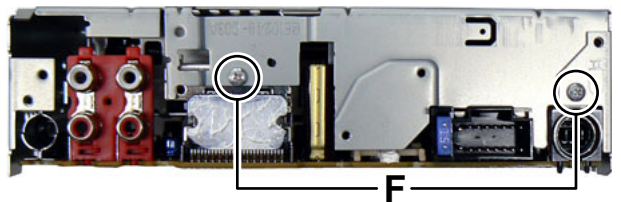

Fig.4
- (2) Remove the two screw **F** attaching the Top chassis. (See Fig.4)